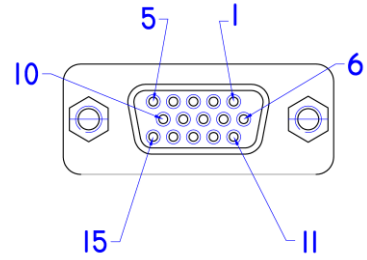

fig 6 - 4
- See figure 6 - 4 and table 6 - 2 for the pinning of CON G.